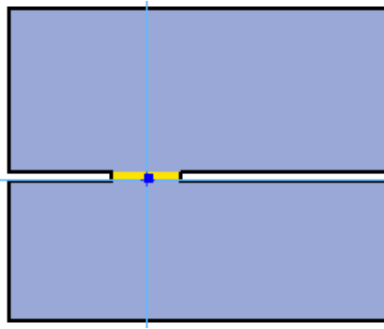

Figure 80. Click inside the gap
3. Once the appropriate parameters have been entered, move the cursor over the desired doorway (Figure 80). A door preview will be displayed. If it doesn't, adjust the search parameters in the property panel and try again.